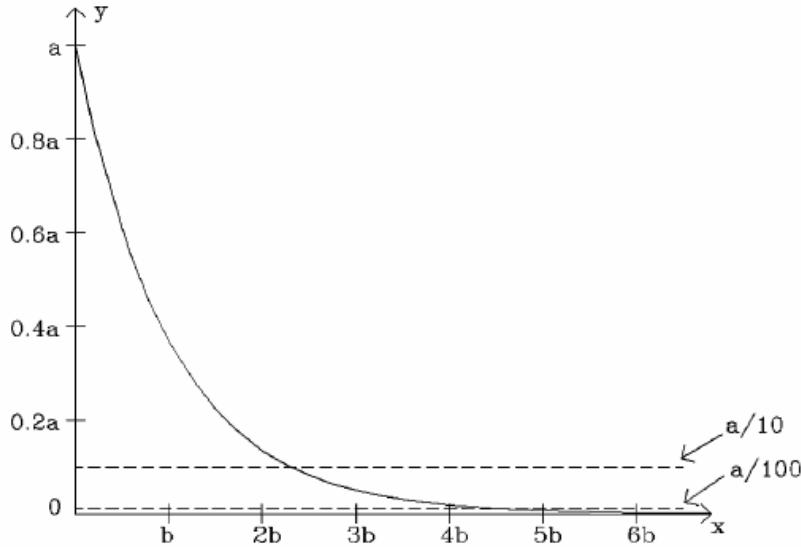

Figure 4: Graph of  $y = ae^{-x/b}$
In equations (5) and (7), the symbol  $e$  stands for the constant  $2.71828\cdots$ , the *base of natural logarithms*. A graph of the function  $y = ae^{-x/b}$  is given in figure 4, where  $y = a$  at  $x = 0$  and then decays exponentially as  $x$  increases, reaching a value of  $y = ae^{-1} = 0.37a$  at  $x = b$ .